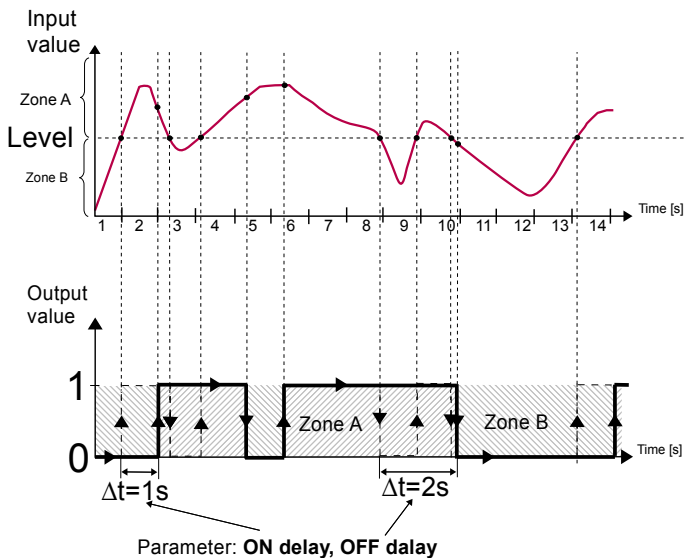

Fig. 7.70. Principle of relay output operation for sample timing settings:
- **ON delay** - this parameter allows the setting of the time that must pass from the time of exceeds **Level** value until the output switch from low to high state (see Fig. 7.70),
- **OFF delay** - this parameter allows the user to set the time that must pass from the time of exceeds **Level** value until the output switch from high to low state (see Fig. 7.70),